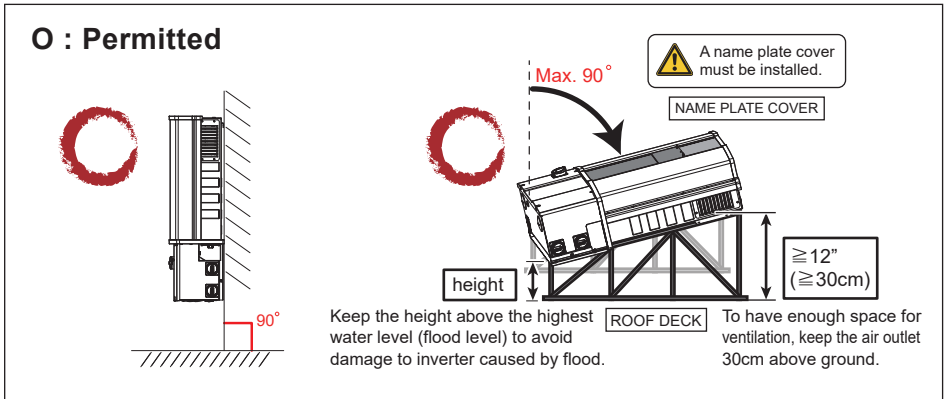

Figure 3-10: Permitted mounting positions
1. Refer to **Figure 3-10**. Ensure the mounting stand meets the mounting dimensions shown, with the large plate at the lowest end of the stand. Ensure the stand is sufficiently strong enough to carry the inverter weight.
2. For vertical installation, if the inverter is exposed to sunlight (without shading), **a name plate cover must be installed** to extend the lifetime of LCD display. Please refer to **Figure 3-10** for an example of name plate cover.
3. For tilt installation, **a name plate cover must be installed** to add protection against harsh environmental conditions such as: direct sunlight, hail, snow and pecking from birds. Please refer to **Figure 3-10** for an example of name plate cover.